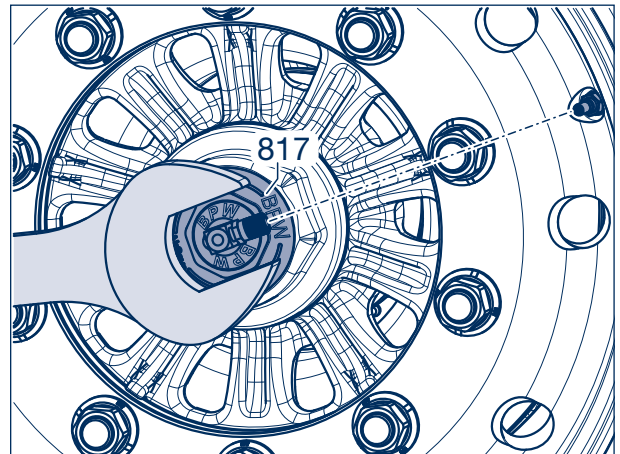

Figure 9
- [4] Turn the hub cap adapter (817) using a spanner (SW 55) or spring pliers until the screwed joint of the rotor can be connected to the valve hose (see Figure 9).